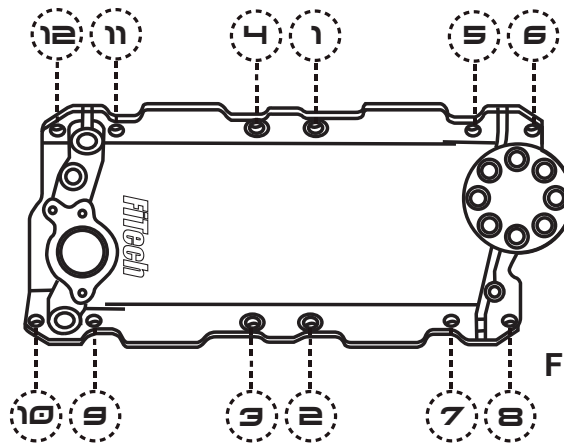

Figure 5
9. Apply the bolts according to illustrations and engine spec. This is to ensure the intake will lay evenly on the heads when the bolts are being torqued. Run down and torque the bolts in illustrations figure 5.